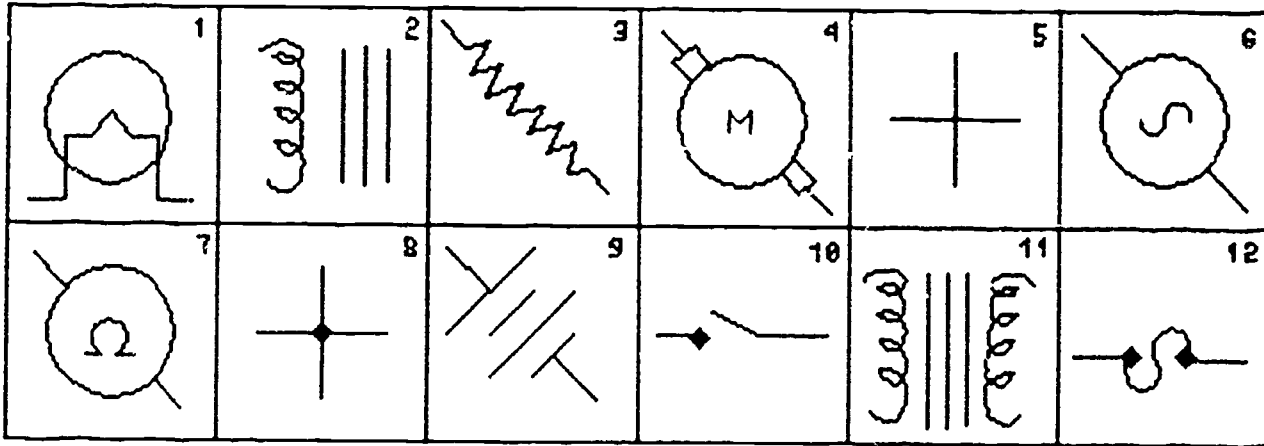

FIGURE 1
3. Match the schematic diagram figure 1 with its term and record the corresponding number next to the term in the space provided: